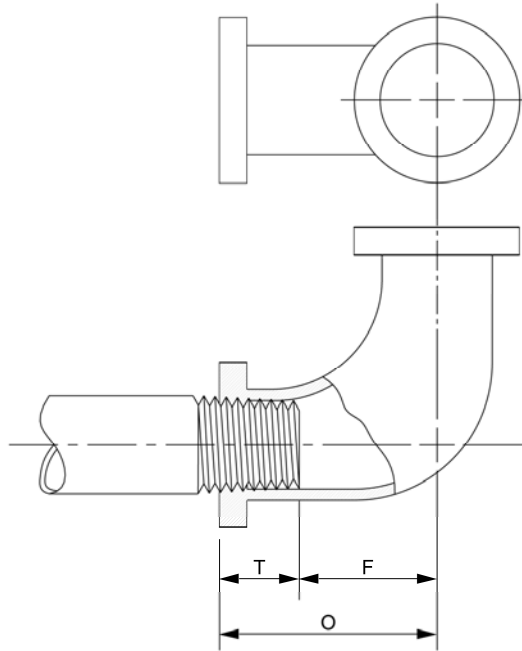

Figure 3-2. Fitting allowances.
- 7. Give a brief description of the following terms (see Figure 3-2):